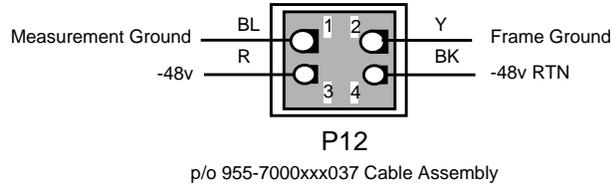

Figure 1-2. Test Head Power Wiring P12
- Step 3:* Connect the leads in accordance with the associated figures for the P12 connector of the 955-7000xxx037 cable (See Figure 1-2) at the battery supply or an assigned fuse position for the test head.